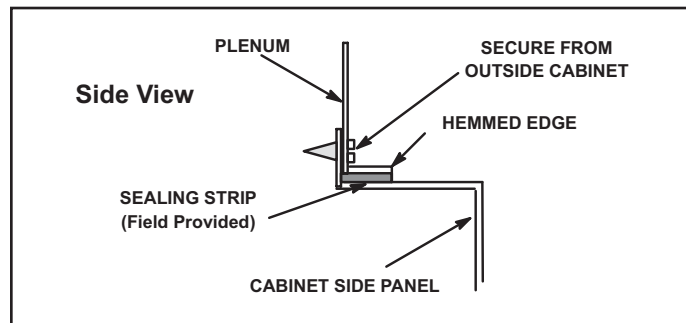

Figure 11.
1. Bottom edge of plenum should be flanged with a hemmed edge (see Figure 11).